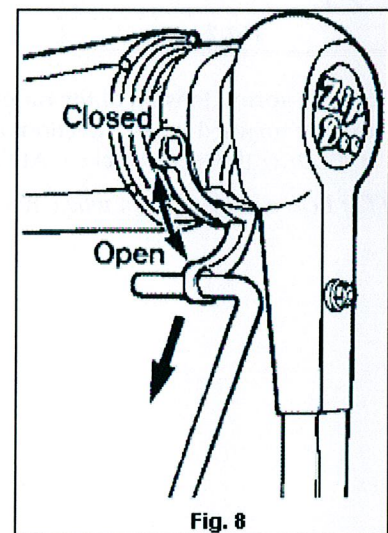

Fig. 8
1. Insert the pull rod into the Z-Lock lever and pull down (Fig. 8). This releases the awning.